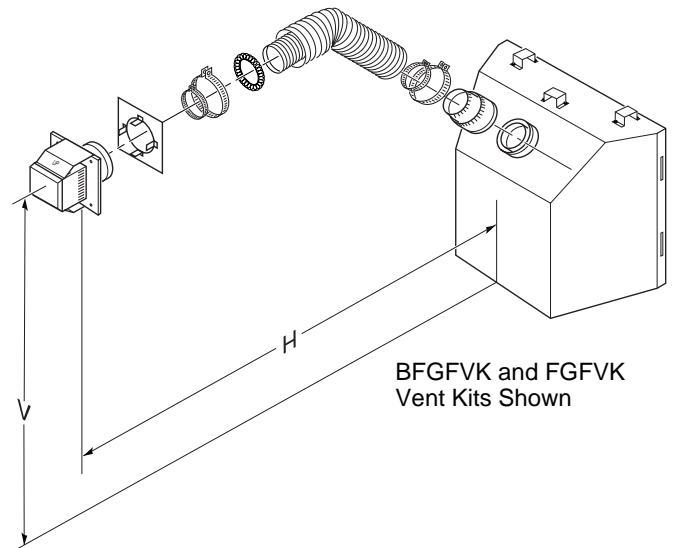

Figure 18 - Horizontal Termination Using Flexible Venting
See information in Figure 18 for Vertical (V) and Horizontal (H) maximums and minimums. The same amounts apply for flexible venting.